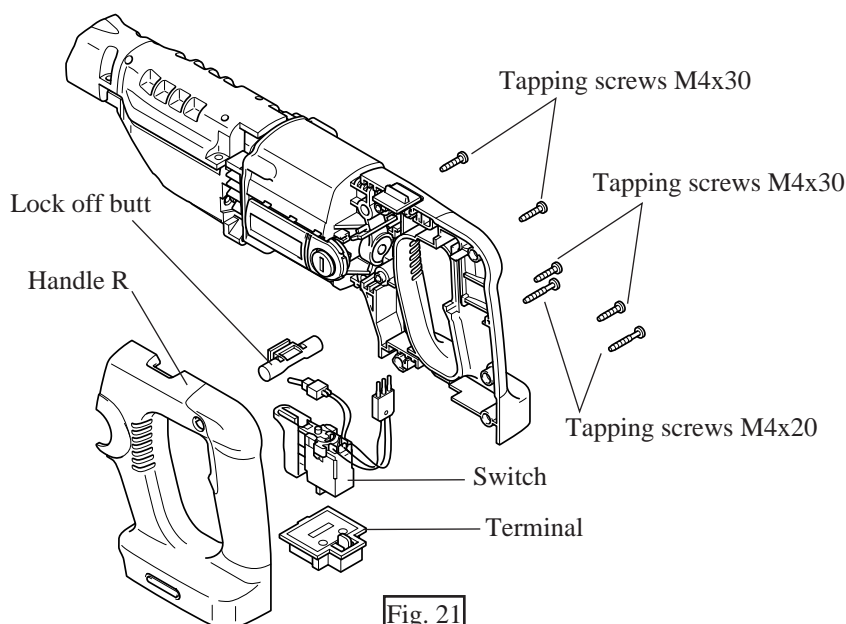

Fig. 21
1. Unscrewing 4 pcs. of tapping screws M4x30 and 2 pcs. of tapping screws M4x20, remove handle R from handle L. So, the inner parts (for instance switch, terminal, etc.) can be removed. See Fig. 21.